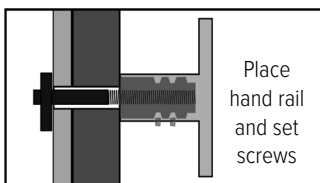

Figure 4.1.8
4.1.8 Locate the correct hand rail for wall "A" and slide the hand rail stand offs over the aluminum inserts until the stand offs are tight against the wall panel as shown in Figure 4.1.8.